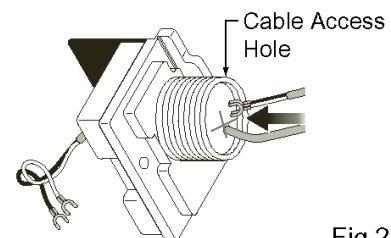

Fig.2
9. Rotate the Quick Cable Connector. (Fig. 2)
10. Route the wires through the Cable Access Hole (Fig. 2)